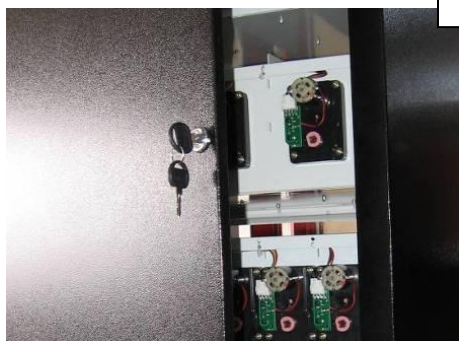

Figure 47- Open the back door
- a. Open the back door on the vending machine (Figure 47).